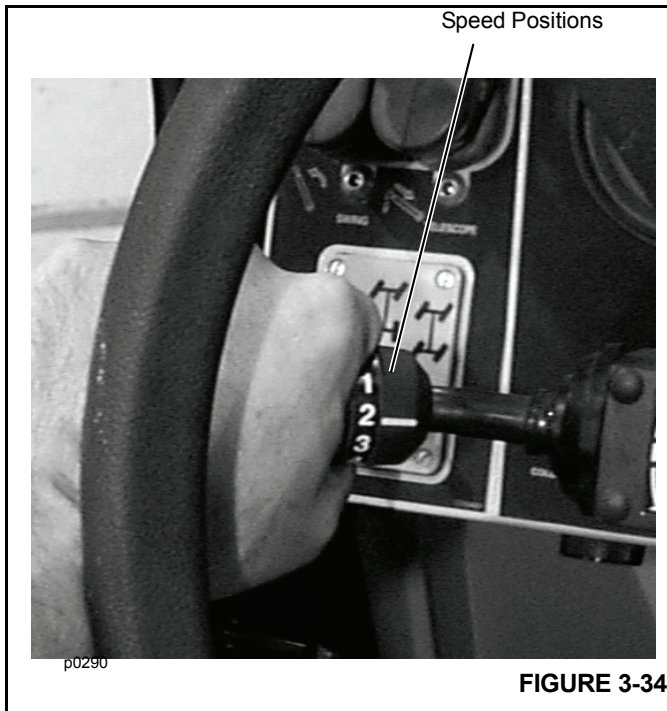

FIGURE 3-34
4. Start out traveling from a stopped position in 1st speed. Travel speed may be shifted from 1st to 2nd, 2nd to 3rd, 3rd to 4th (Figure 3-34) when the crane is moving. See Shifting Gears, in the next column. Avoid operating at too high of speed when moving a heavy load, as this may cause "lugging" on the engine. Use a lower gear when moving a heavy load; higher gear when moving a lighter load. **SELECTING THE CORRECT TRAVEL SPEED WILL PROLONG ENGINE LIFE.**